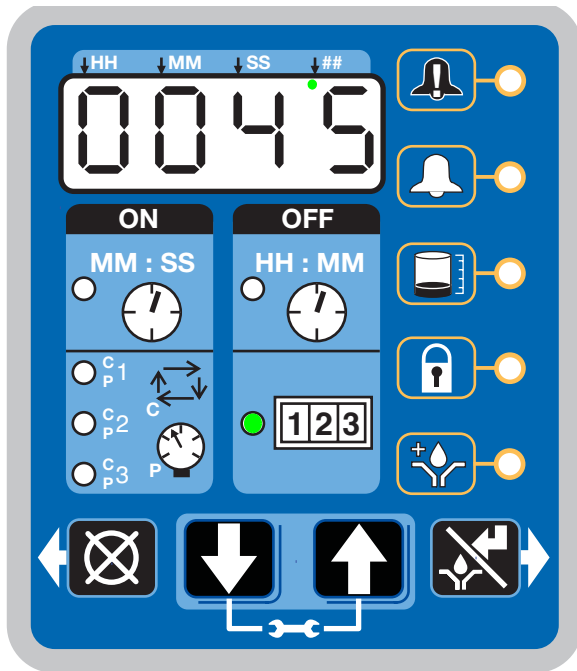

FIG. 22
- The LED next to 1-2-3 illuminates (FIG. 22).
The example shown in FIG. 22 shows the remaining number of machine counts is 0045.
- If Machine Count has been set the LED next to 1-2-3 illuminates (FIG. 22, page 47).